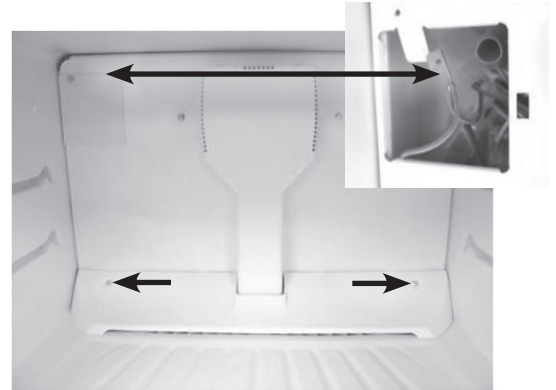

Figure 1
2. Remove the ¼" screw securing the water tube cover to the main cover and remove. See figure 1.